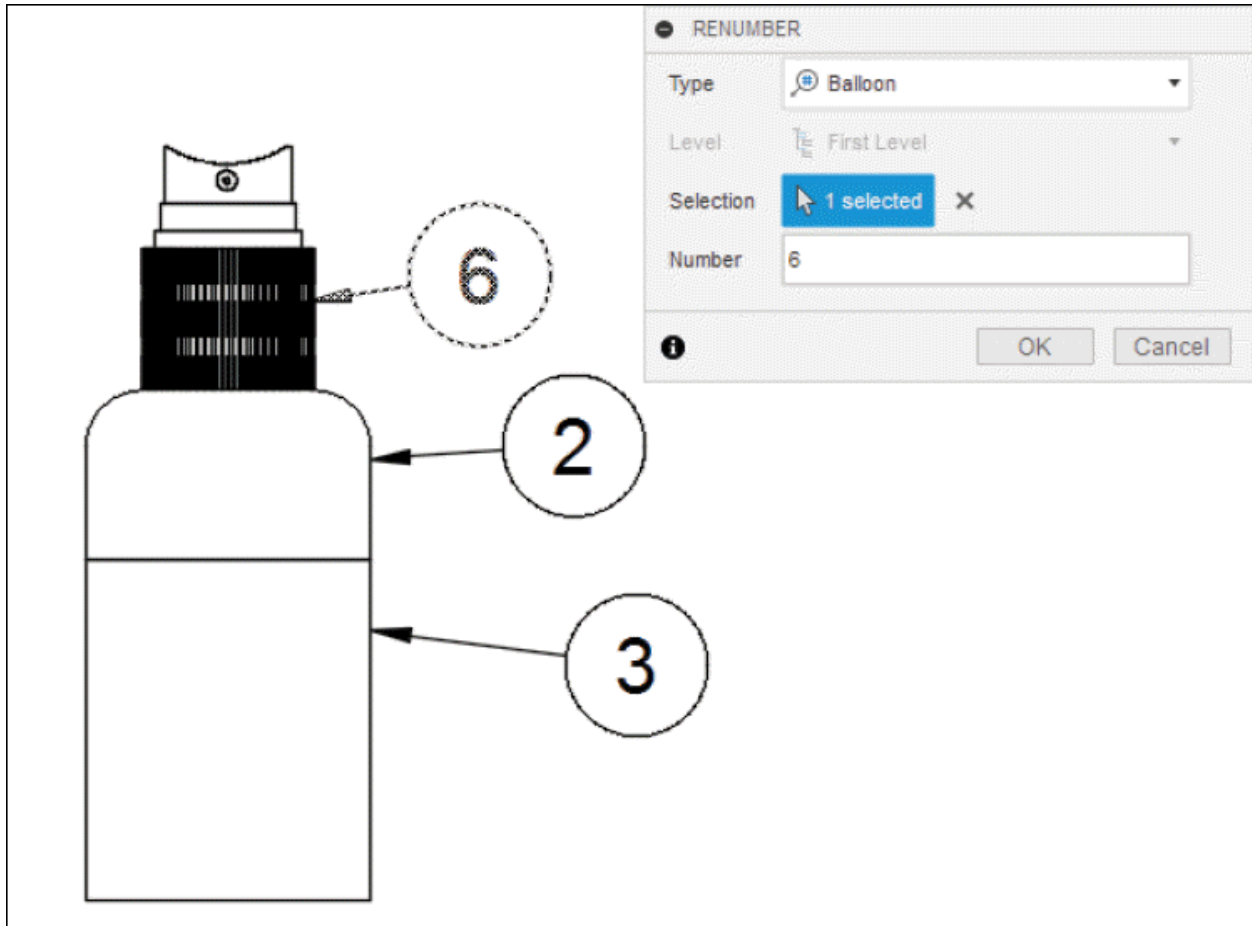

Figure-128. Changed balloon number
- Click on **Select** button from **Selection** section and click on the balloons as per their sequences to renumber them. The balloon numbers will be changed; refer to Figure-128.